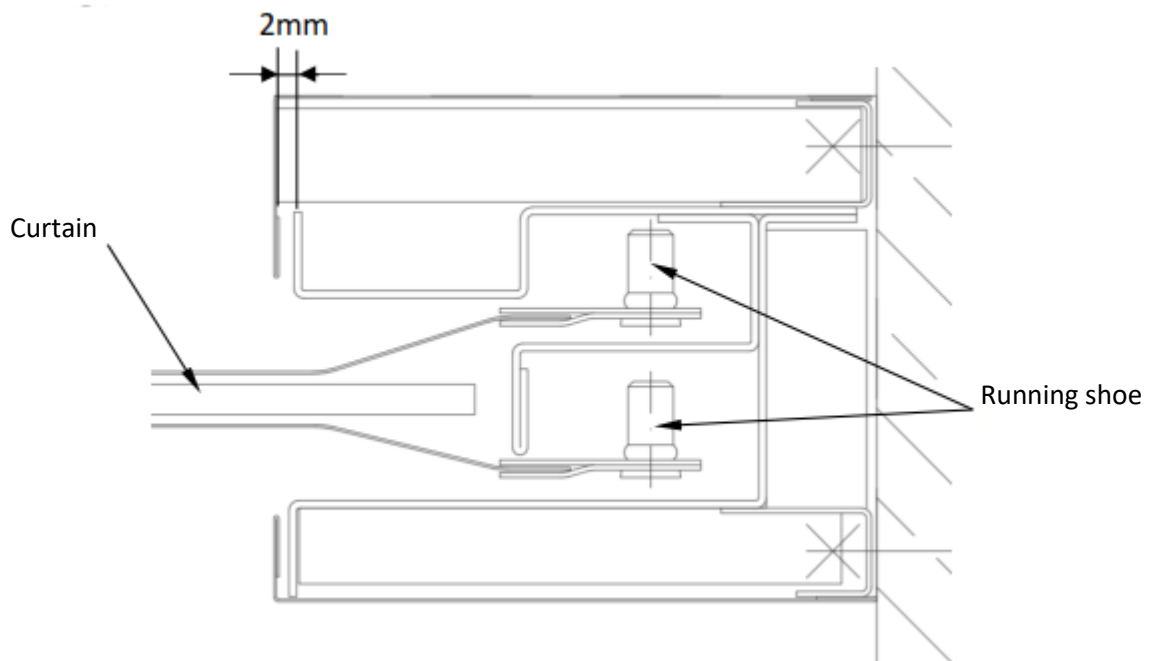

Fig. 28. Cross-sectional view of the guide rail engaged by the curtain for the corridor-closure installation
- Insert the curtain into the recesses in the guide rails so that the running shoes are in separate channels (as shown in Fig 28).